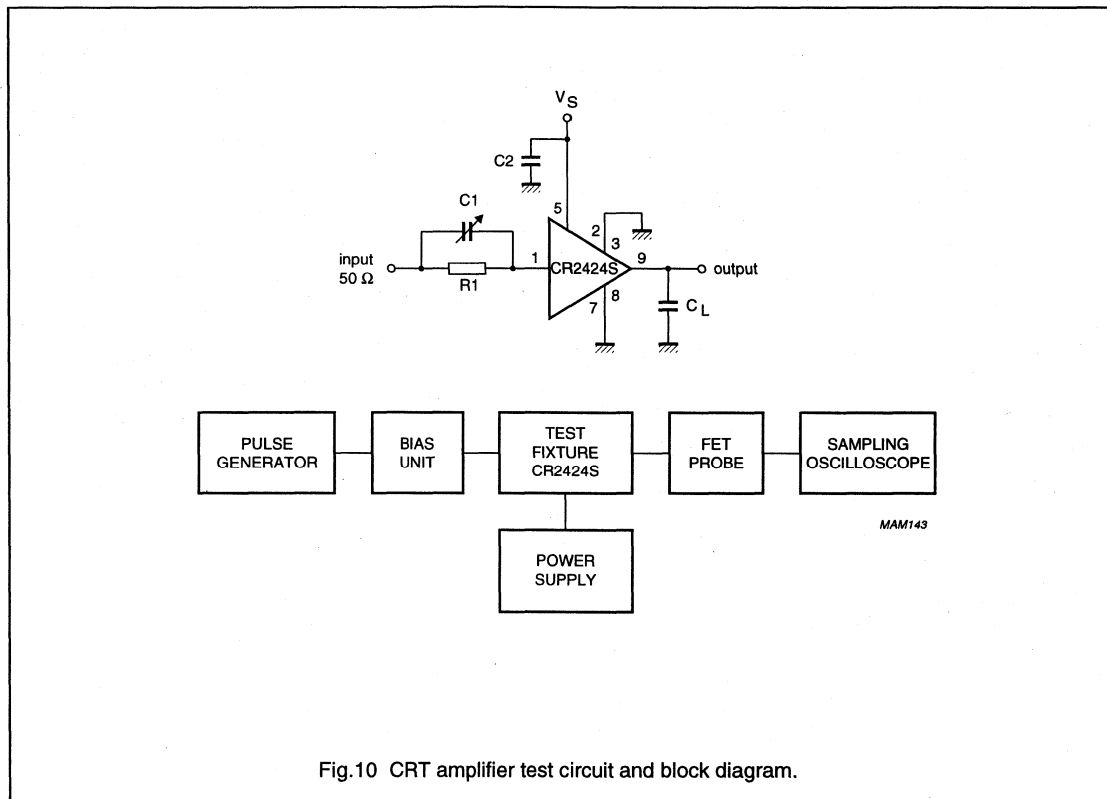

Fig.10 CRT amplifier test circuit and block diagram.
$T_{mb} = 25\text{ }^{\circ}\text{C}$; $C_L = 8.5\text{ pF}$; measured in test circuit (see Fig.10); unless otherwise specified.
- Input signal is a 100 kHz square wave of 3.25 V (p-p), with 1.5 V (DC) offset (50 Ω source).
- Input signal is a 100 kHz square wave of 3.4 V (p-p), with 1.65 V (DC) offset (50 Ω source).
- Measured V_O/V_I (Figs 2 and 6) at input test circuit (see Fig.10).
- Measured V_O/V_I (Figs 3 and 7) at input module (see Fig.10).
Components used in test circuit (see Fig.10)
Equipment used in test circuit (see Fig.10)